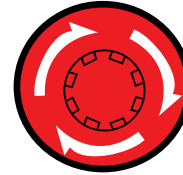

Figure 51. Emergency Stop Switch (Option)
1. If equipped (option), push the **Emergency Stop Pushbutton Switch** (Figure 51).